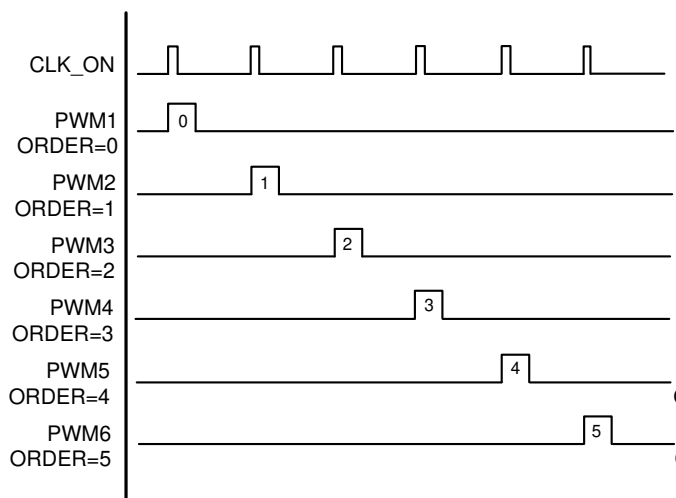
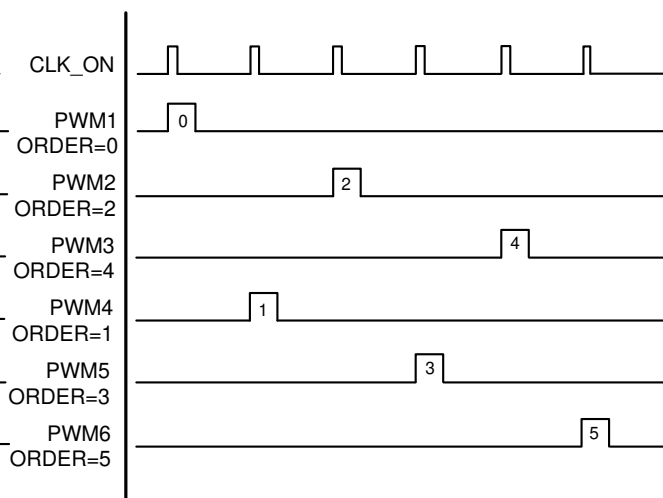

Figure 7-15. 0-1-2-3-4-5 fire order (6 phase example)
Figure 7-16. 0-2-4-1-3-5 fire order (6 phase example)
- **ORDER:** Controls the order in which phases are fired with respect to each other. Figure 7-15 and Figure 7-16 illustrate the effect of different ordering assignments. Reconfigure the phase ordering to ensure adjacent phases do not interfere with each other due to layout related coupling issues. If dynamic phase shedding is used, phases add or drop according to their assigned ORDER value.